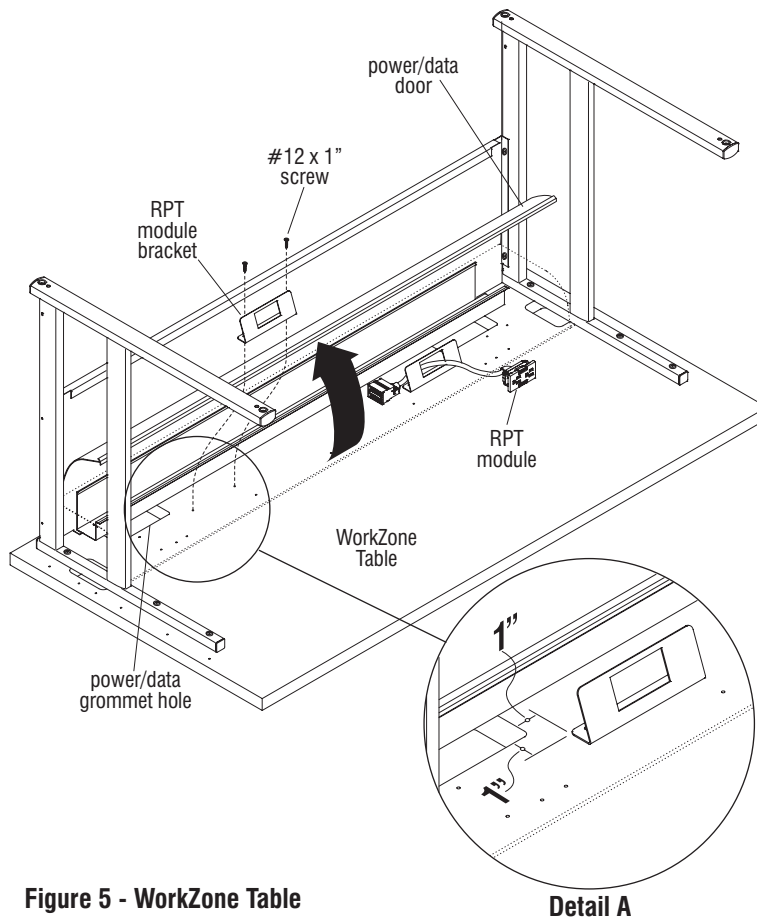

Figure 5 - WorkZone Table
1. Open the power/data door under the table and locate mounting positions for the two RPT module brackets as illustrated. The module brackets must be located 1" away from any power/data grommet hole and mounted such that when the power/data door closes, there is no interference (Figure 5 & Detail A).
3. Position the RPT module bracket over the holes and secure using two #12 x 1" screws (Figure 5).
4. Feed the connector end of the RPT module through the rectangular opening in the bracket and snap the module into place (Figure 5).